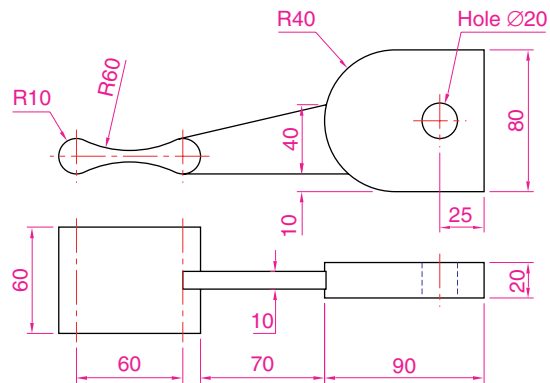

Fig. 18.25 Third example of 3D models – details of shapes and sizes
- 3D Navigate/Front.** Construct the three plines needed for the extrusions of each part of the model (details Fig. 18.25). Extrude to the given heights. Subtract the hole from the 20 high extrusion.